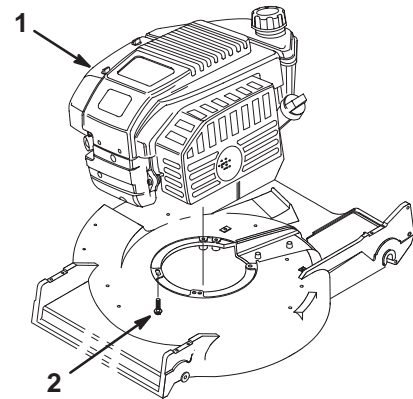

Figure 8
1. Carefully set the new engine onto the housing (Fig. 8).
2. Secure the engine with 3 new engine screws (Fig. 8), torquing them to 250 to 400 in-lb (28 to 45 N·m).